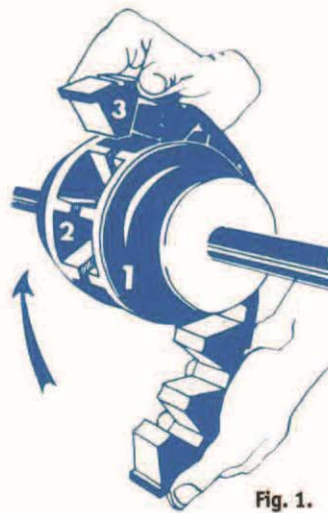

Fig. 1.
The teeth of the hubs are positioned facing each other without touching or overlapping and observing the assembly gap E (see feature list), with the purpose of assembling the elastic insert (3) so that it fits into the slots formed by the aligned teeth of the hubs (see fig. 1).